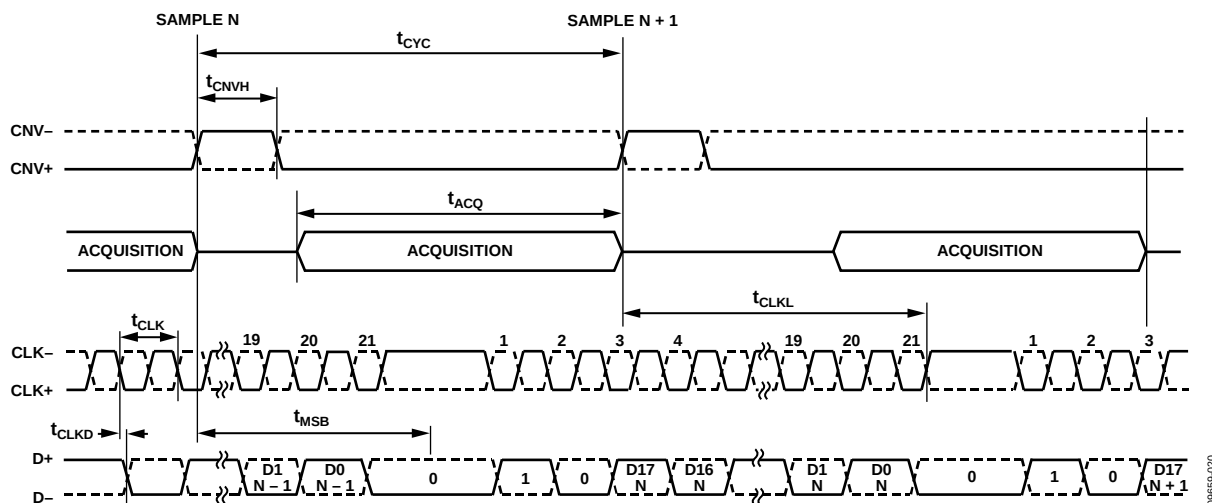

Figure 37. Self-Clocked Interface Mode with Extra Clock Pulse Timing Diagram
When the self clocked interface mode is used, the AD7960 also allows the user to provide an extra (21st) clock pulse to see a guaranteed 0 state at the end of the frame, as shown in Figure 37. After t_{MSB} has elapsed, the first bit of the header sequence, 0, automatically appears on D $\pm$ and the remaining two bits of the header, 10, are then clocked out by the first two CLK $\pm$ falling edges at the beginning of the next sample. This header (010) is used to synchronize D $\pm$ of each conversion in the digital host because, in this mode, there is no clock output synchronous to the data (D $\pm$) to allow the digital host to acquire the data output.